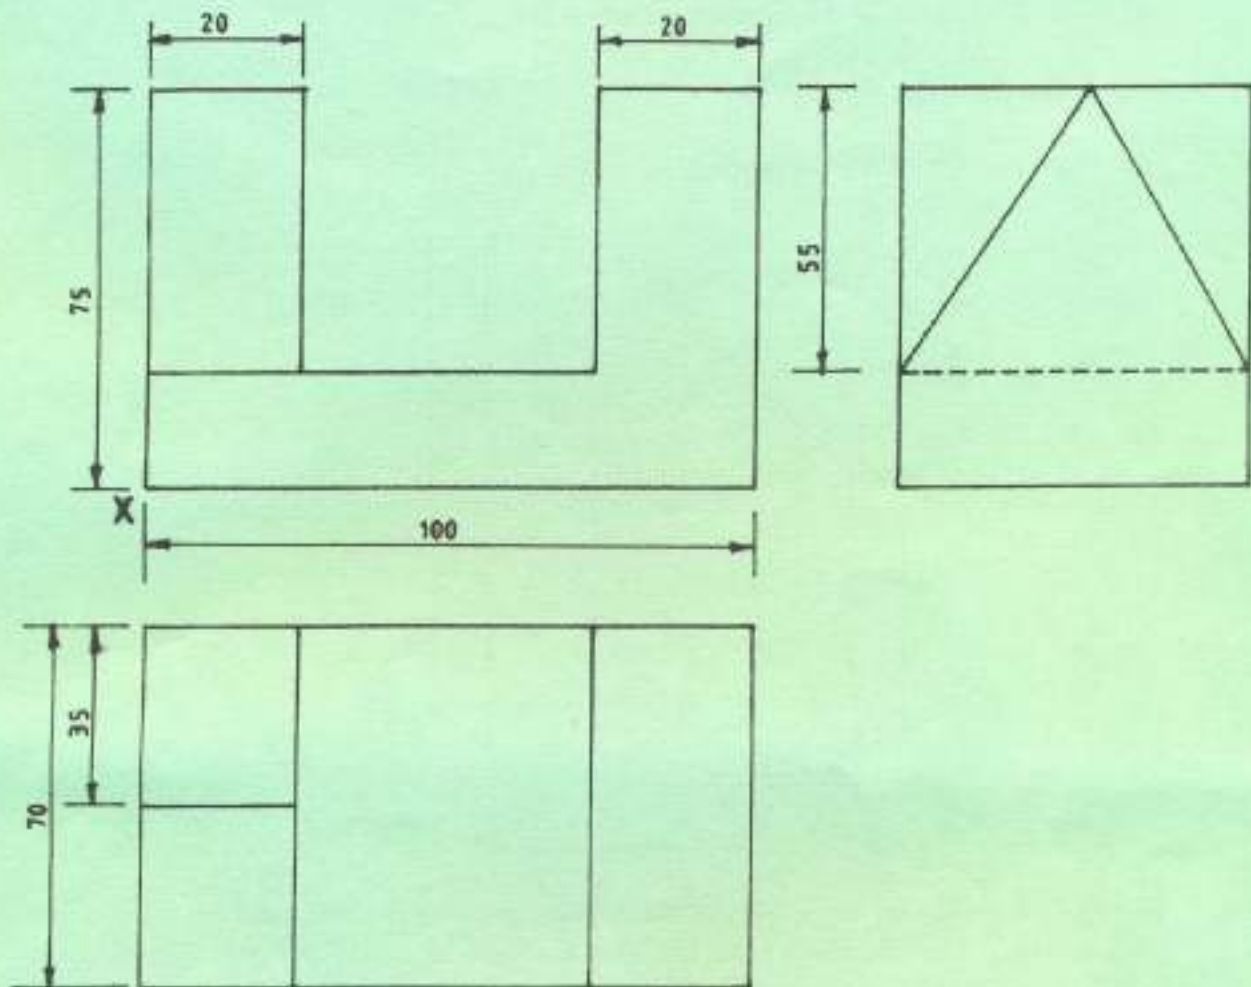

Fig. 2
- (b) Figure 2 shows three views of an object drawn in first angle projection. Draw the object in isometric making  $x$  the lowest point. (12 marks)